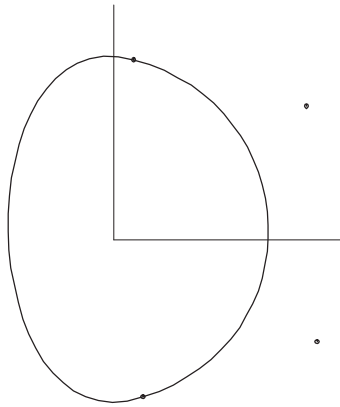

Fig. 12
- 6 Make a  **B-spline Curve**. **Check that the control points are listed in the correct order** (if they are not, select them again now). **OK** to accept defaults (Fig. 12). This should match our distribution file TANPOINTS2.ms2.